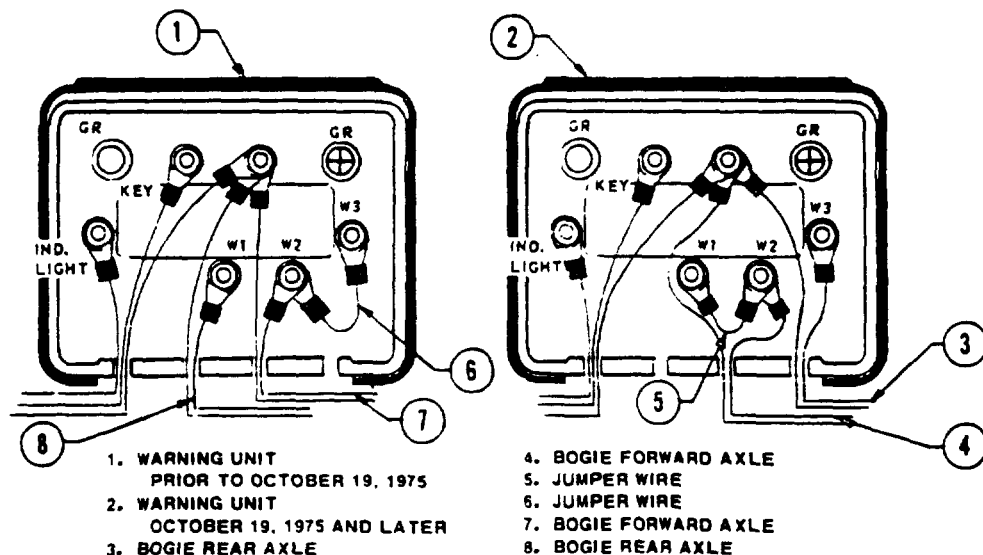

FIGURE 7
- d. Install a jumper between the front axle terminal and W2 terminal of the failure warning unit located in cab. This step is necessary with removal of the front axle controller, to prevent a false failure indication. See Figure 7.